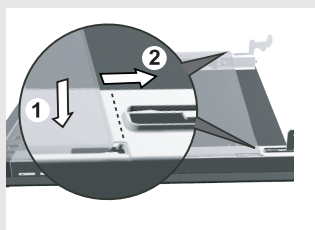

figure 3
- Note: Insert the glass into the slot and push it forward (Figure 3).